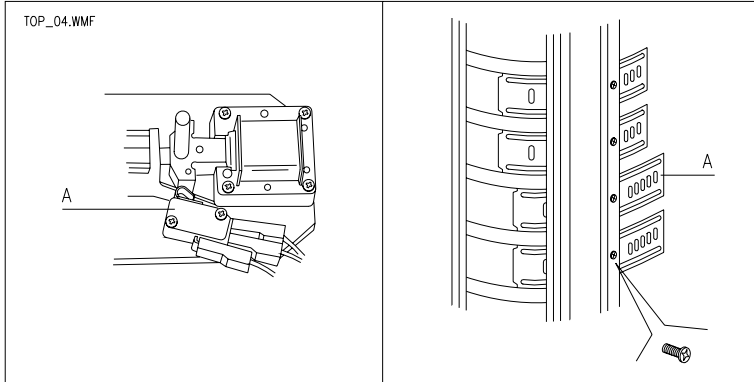

FIG. 5
- 1) The solenoid is energized, withdraws the piston releasing the drum and opening the micro A FIG. 5.
The number of spaces for each drum can be: 6,8,12,16,24,48 - 5,10,20,40. When the number of dividers is changed it is necessary to adjust the sliding plates on the right hand grille assembly FIG. 5, and to remove or replace the plastic blocking plugs in the edge of the base plate corresponding to the width of the compartment.
- 10) Adjust the sliding plates as to created spaces as previously described in paragraph "SELECTION COMPARTMENTS" and as schematized in FIG. 5 rif. A.